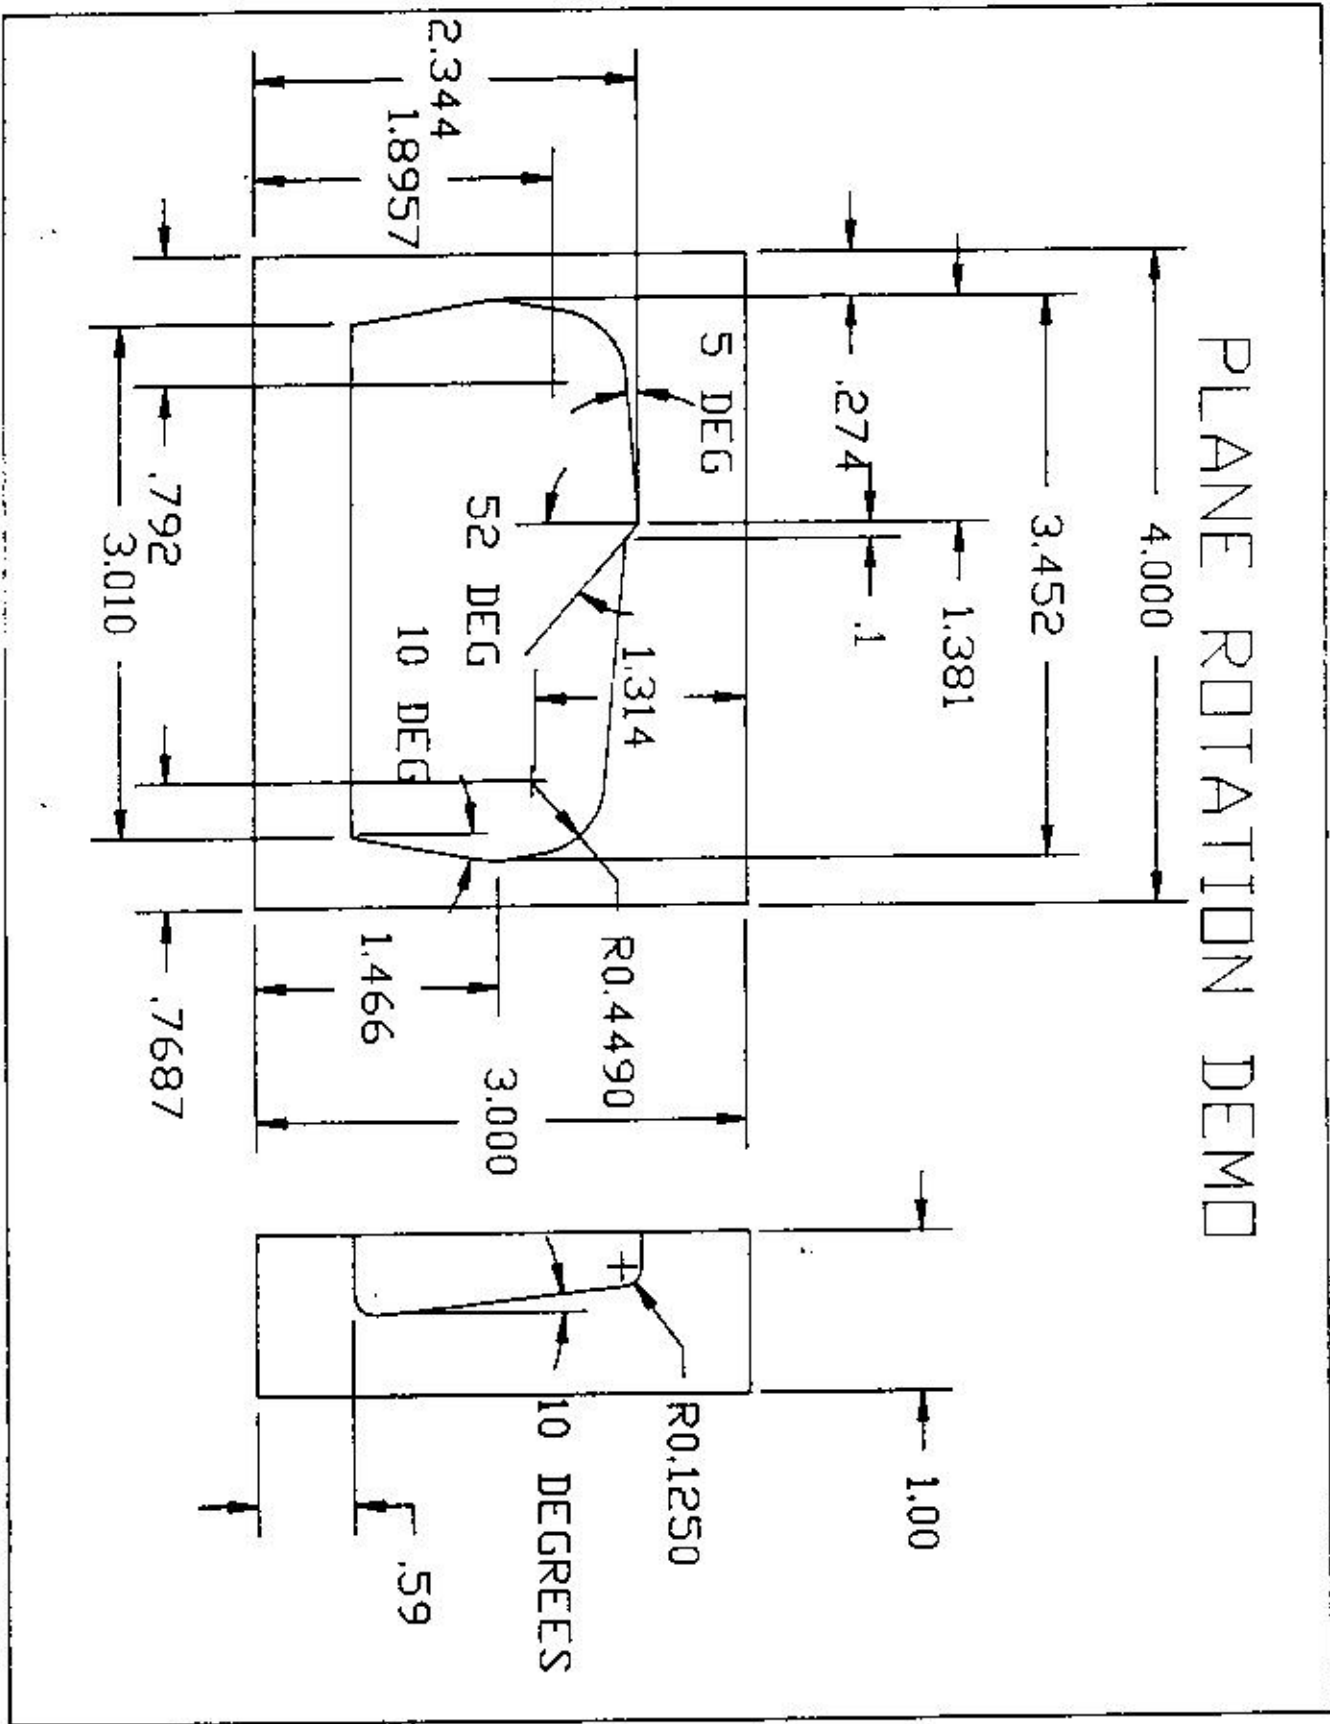

Figure 76
A. PLANE ROTATION DEMO PROGRAM (Figure 76):